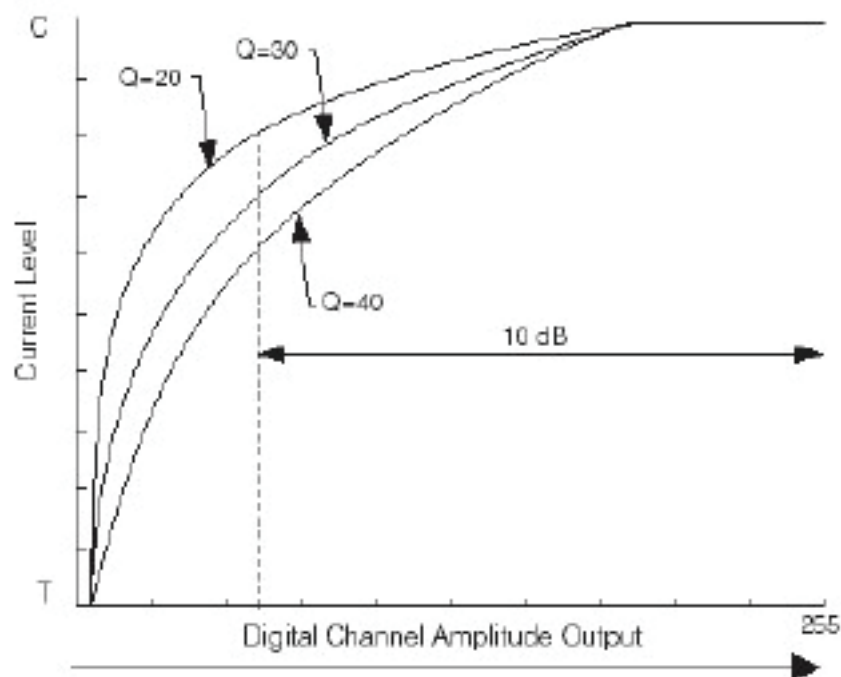

Figure 2 : Loudness growth functions:
- **Q-value** – controls the steepness of the amplitude growth function and determines the percentage of a recipient's electrical output dynamic range that is allocated to the top 10 dB of the sound processor's input dynamic range. A low Q-value makes the loudness growth function steeper and has the effect of making soft sounds perceptually louder (see Figure 2 below).